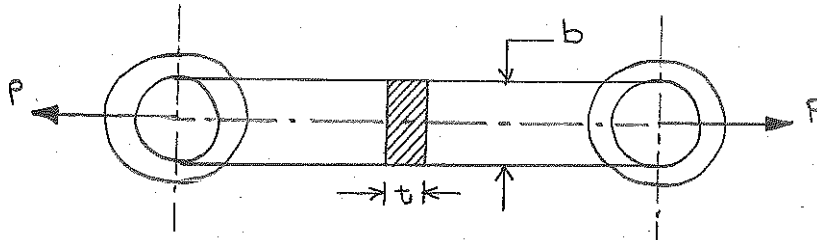

Fig. 5
- c) A M.S. Link as shown in Fig. 5 transmits a pull of 85 kN. Find the dimensions 'b' and 't' if $b = 3.5t$. Assume the permissible tensile stress as 60 MPa.